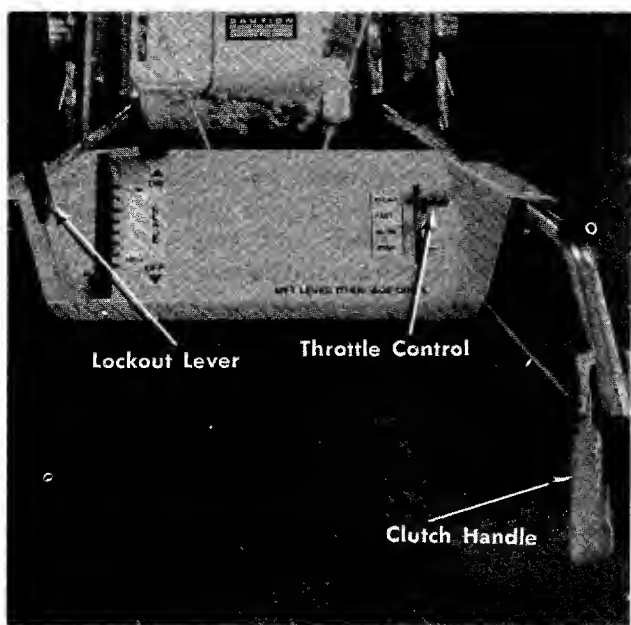

FIGURE 12
4. Move the lockout lever to the OFF position. See figure 12.
5. Move the throttle control to the CHOKE position. See figure 12.